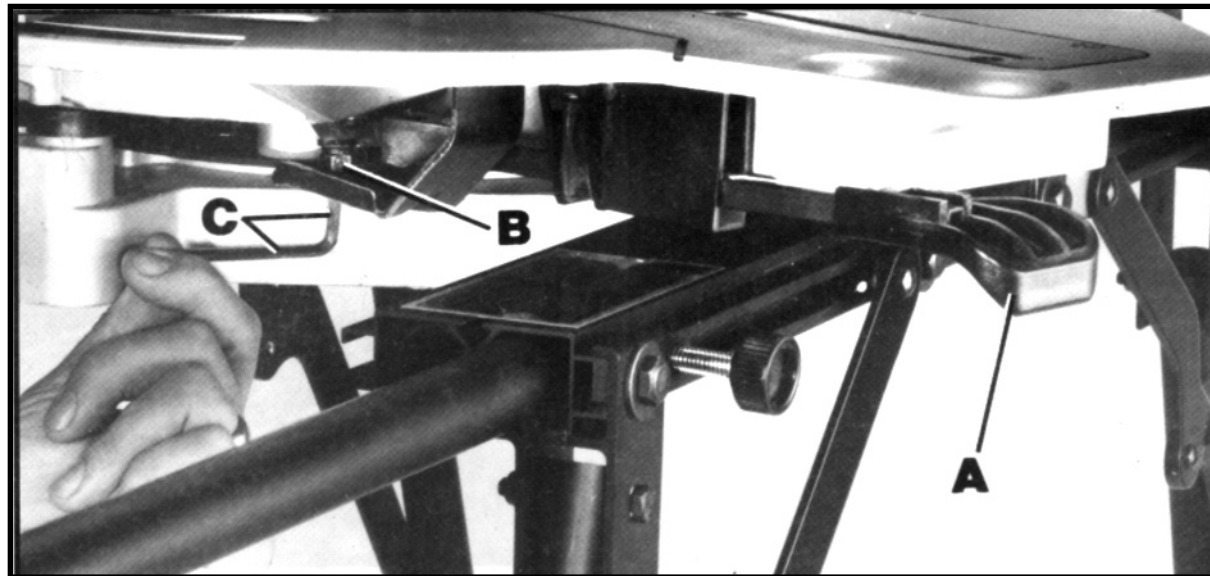

Fig. 33
When rotating the table, the table locking lever (A) Fig. 33, must be compressed. When the locking lever (A) is not compressed, the table should be in the locked position. When the clamping action of the table locking mechanism needs adjusting, proceed as follows:
2. Loosen locknut (B) Fig. 33, using the open end wrench supplied, and turn screw with allen wrench (C) supplied. Turn screw clockwise to increase or counterclockwise to decrease clamping action of locking lever (A). **IMPORTANT: After adjustment is completed, tighten locknut (B), just enough to take all play out of the handle assembly. Tightening locknut (B) too much will defeat the purpose of the adjustment.**